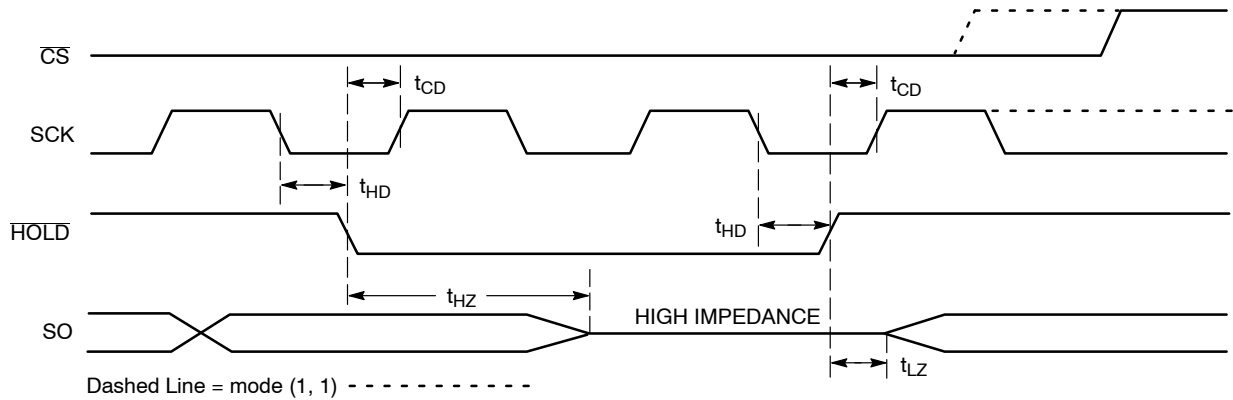

Figure 11.  $\overline{\text{HOLD}}$  Timing
The  $\overline{\text{HOLD}}$  input can be used to pause communication between host and NV25080/160. To pause,  $\overline{\text{HOLD}}$  must be taken low while SCK is low (Figure 11). During the hold condition the device must remain selected ( $\overline{\text{CS}}$  low). During the pause, the data output pin (SO) is tri-stated (high impedance) and SI transitions are ignored. To resume communication,  $\overline{\text{HOLD}}$  must be taken high while SCK is low.